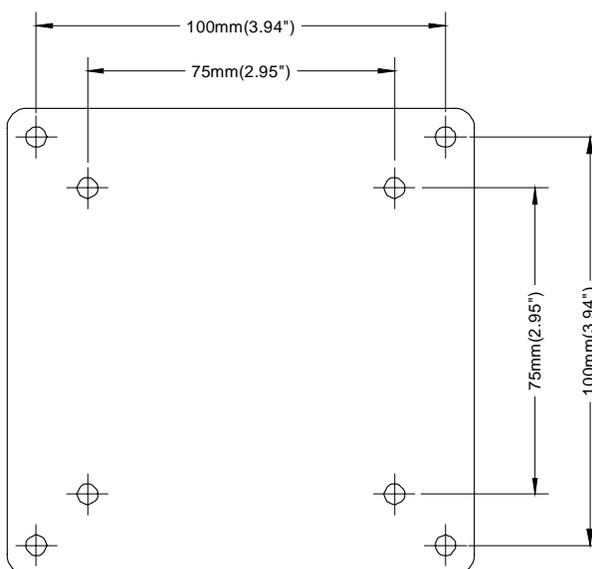

Figure 2-3: Touchscreen base back plate showing VESA mounting holes
2. There are two sets of VESA (Video Equipment Standards Association) mounting holes on the back plate and on the touchscreen console. One set is spaced at 100 mm and the other set is spaced at 75 mm. CPI recommends the use of the 100 mm spaced VESA holes. Line up the back plate with the touchscreen (observe orientation). Attach the base using the screws provided. See figure 2-3.